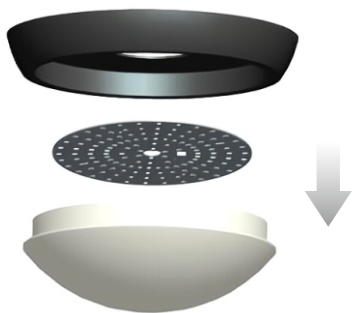

Fig 1.2
1.2 The light set after disassembly is shown in Fig 1.2.